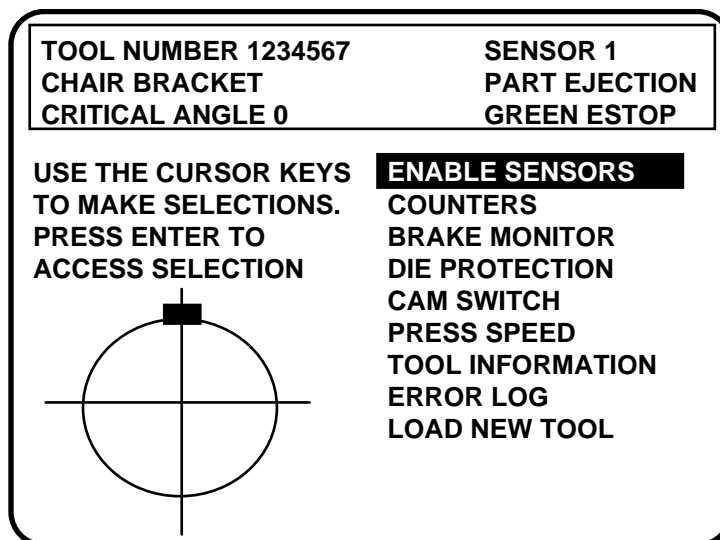

Figure 6-1. Main Run menu (the order may vary depending on the options installed)
This chapter describes how to use all the displays you will see in Run mode. The topics will be covered in the order that they appear on the Main Programming menu, as pictured at Figure 6-1. Specifically it covers adjusting counter settings for a tool, setting stop time and stop angle, and start time, and loading a tool number.
1. Get the first Run menu on your screen (Figure 6-1). Look at the next display.